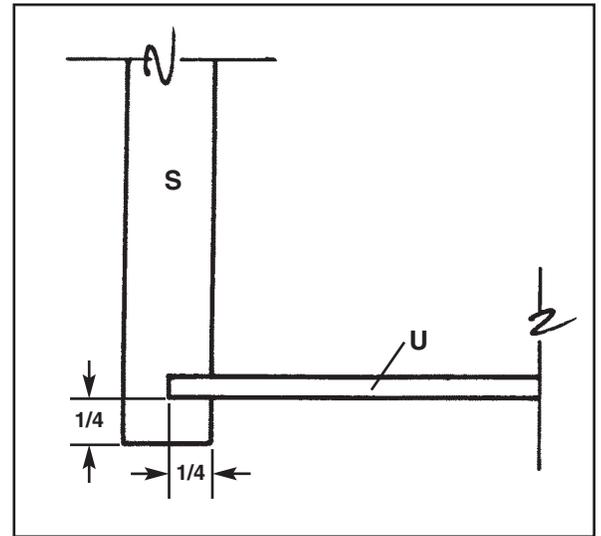

Figure 4
13. Cut grooves in drawer sides (S) for drawer bottom (U). Refer to Figure 4.